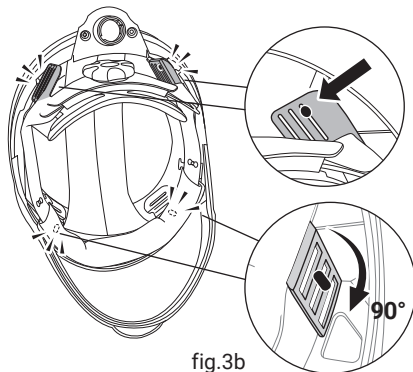

fig.3b
- To change the position of the front headband, pull the attachment buckle out of the slot and rotate the buckle 90° clockwise to detach it from the peg. Re-position the peg to another slot on the "ladder" of the buckle, then follow the reverse steps to reinstall the buckle into place (See fig.3b).
- To change the position of the rear headband, pull the height adjustment slot off the peg and re-position it to another slot on the "ladder" (See fig.3b).